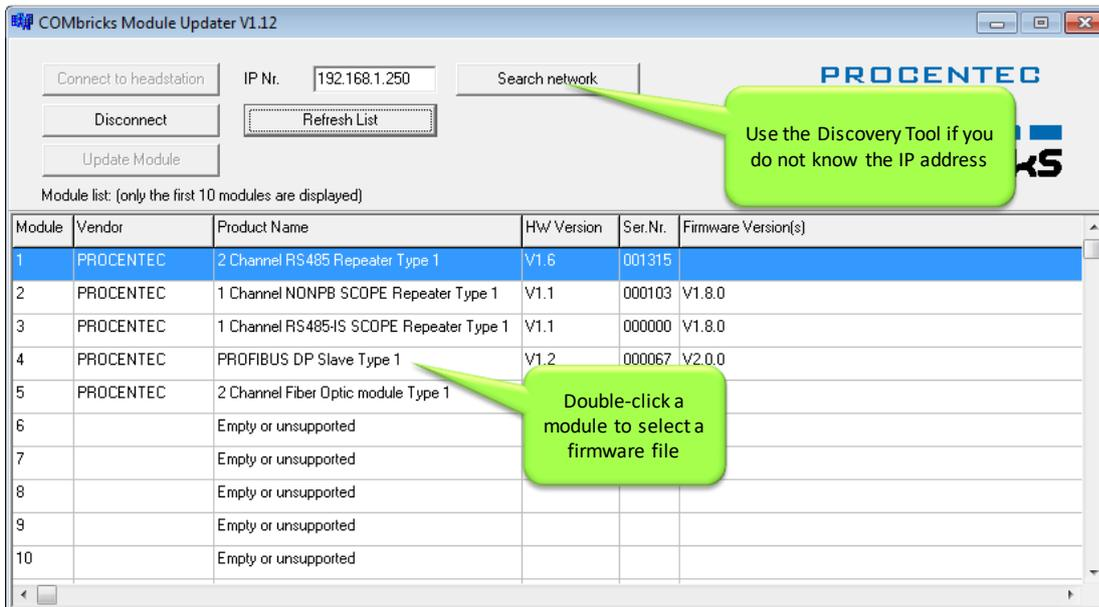
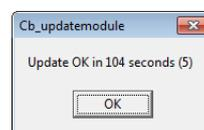

Fig. 119 - Updating module
Fig. 118 - Update complete
- STEP 6:** The tool automatically filters all unrelated firmware files; you cannot select incorrect files. Choose the firmware and click 'Open'. The firmware update will start automatically. You should see the windows as shown in Fig. 119 and Fig. 118.